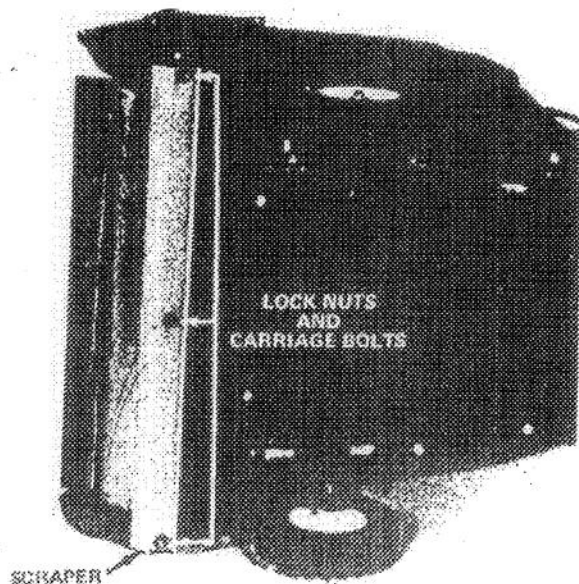

Figure 14
3. Remove three lock nuts and carriage bolts holding scraper against bottom of impeller housing (Fig. 14).
4. Install new scraper with three carriage bolts and lock nuts (Fig. 14).